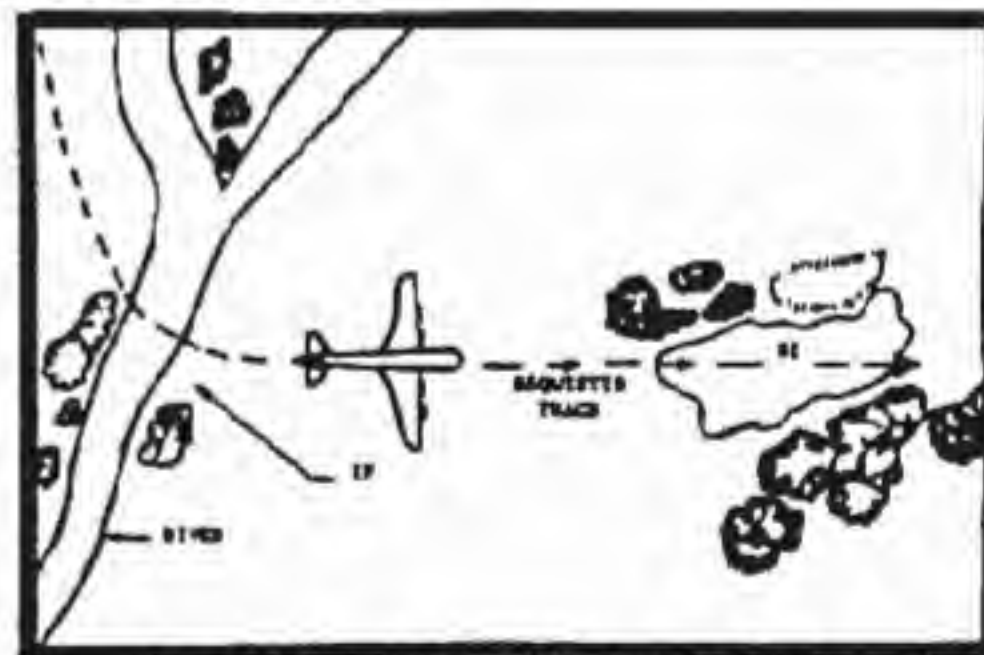

Figure 5. Relationship between IP and requested track
d. Initial Points (IP's). It is desirable to reconcile the requested aircraft track with an identifiable landmark that may be used by the aircrew as an initial point (IP). The IP, located at a distance of 5 to 15 miles (8-24 kilometers) from the DZ, is the final navigational checkpoint prior to reaching the target. Upon reaching the IP, the pilot turns to a predetermined magnetic heading that takes him over the DZ within a certain number of minutes (Figure 5). The following features constitute suitable IP's: